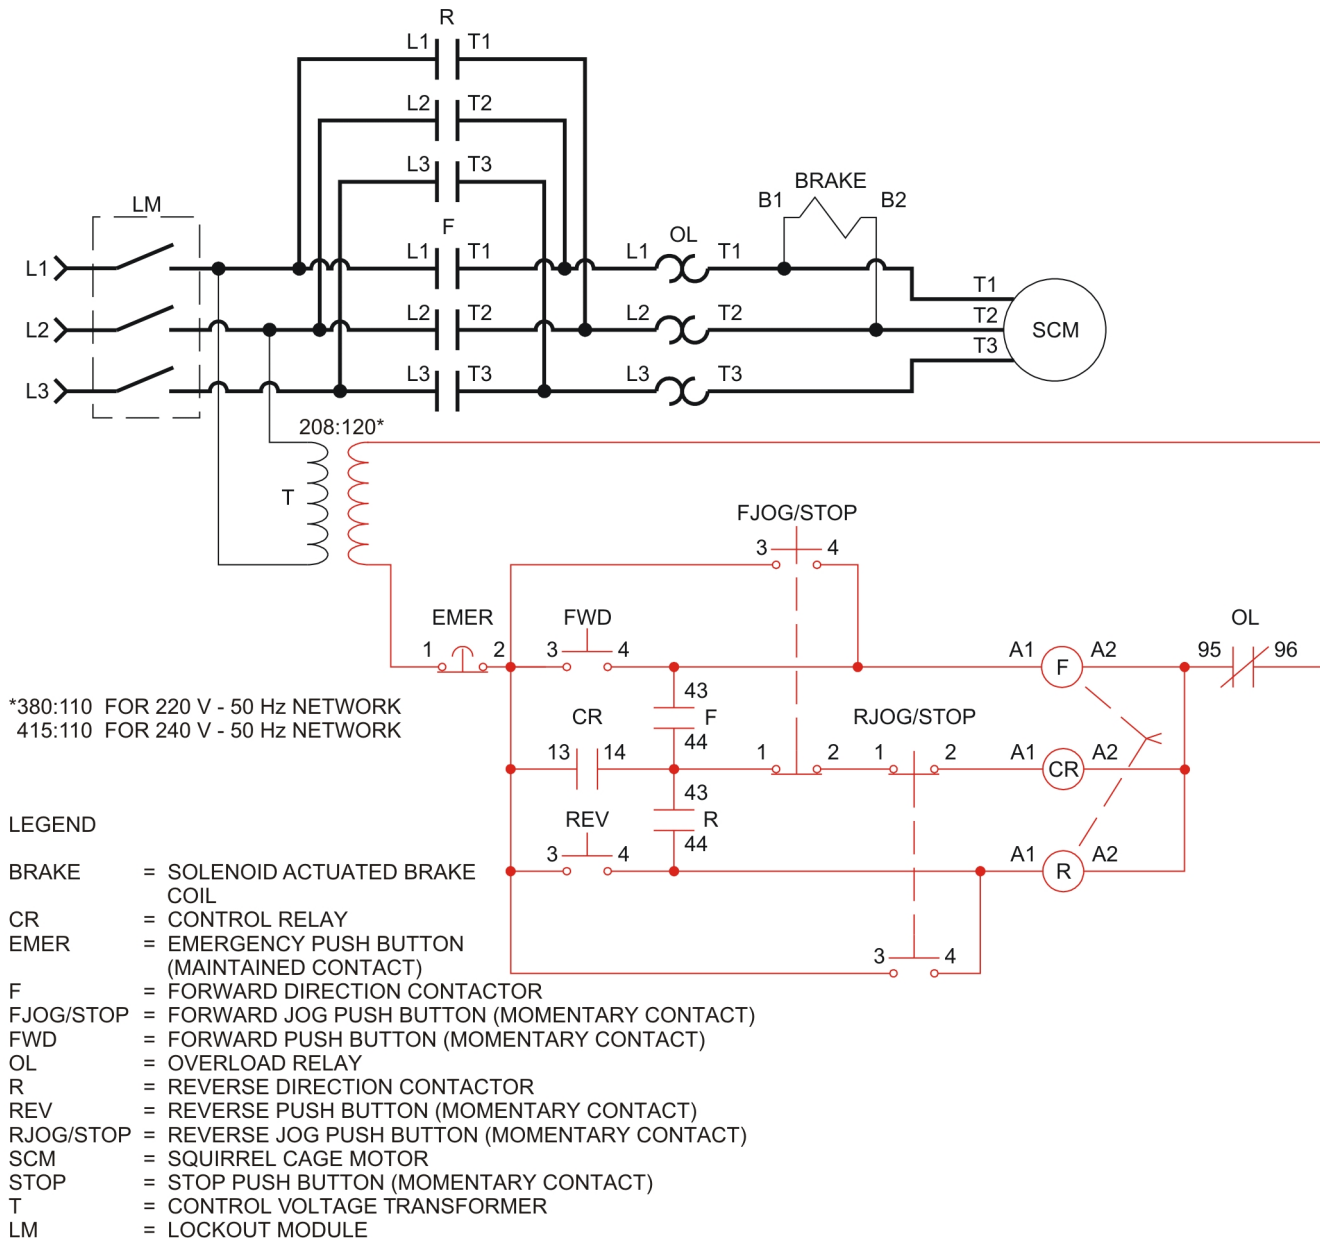

Figure 4-9. Reversing starter circuit with push button jogging.
Figure 4-9 is a schematic diagram of a jogging control circuit made of a reversing starter and a control relay. This circuit can be jogged while the motor is at a standstill or is rotating in either direction.
Connect the circuit shown in Figure 4-9.
*Your client wants you to change the control circuit of Figure 4-9 to incorporate a selector switch. He does not like the idea of having a control relay and wants the circuit to be simpler. He also wants a push button interlock permitting immediate reversal of motor rotation direction.*